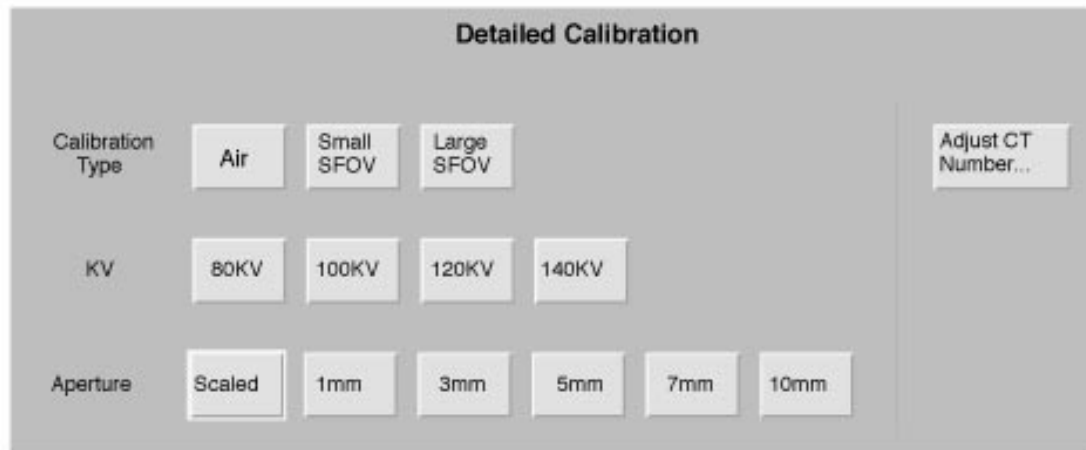

Figure 2-3 Detailed Calibration screen
- 4.) Refer to Figure 2-3. Select the following screen parameters: